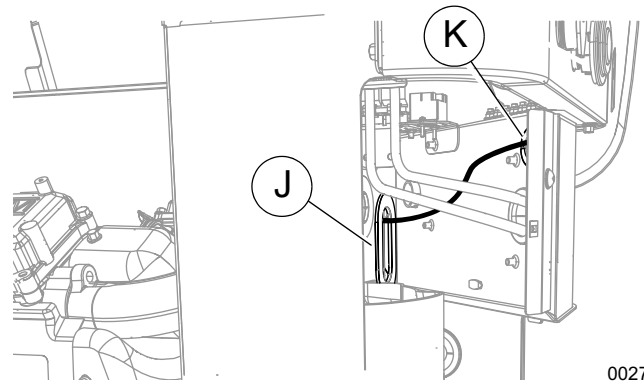

Figure 11. Lead Wires to Customer Connection (11–22 kW)
- Pass the lead wires through the harness grommet (J) in the engine divider panel.
- See Figure 11. Working inside the intake enclosure, route the lead wires through the customer connection panel grommet (K). Secure all wires with plastic wire ties at least 0.5 in. (1 cm) away from fuel hoses.